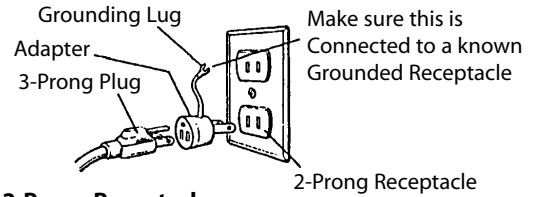

Figure 3 – 2-Prong Receptacle
- A temporary 3-prong to 2-prong grounding adapter (See Figure 3) is available for connecting plugs to a two pole outlet if it is properly grounded.